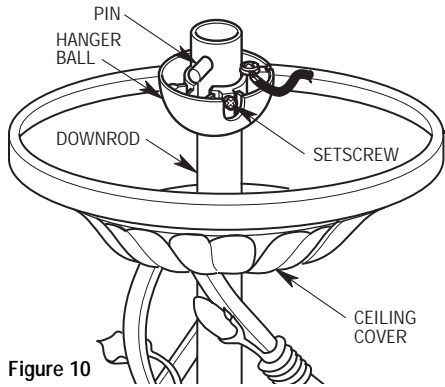

Figure 10
- 16. Place the ceiling cover over the downrod. Then reinstall the hanger ball (Figure 10) on the downrod as follows. Route the three 80" motor leads through the hanger ball and slide the hanger ball over the downrod. Position the pin through the two holes in the downrod and align the hanger ball so the pin is captured in the groove in the top of the hanger ball. Pull the hanger ball up tight against the pin and securely tighten the setscrew in the hanger ball. A loose setscrew could create fan wobble.